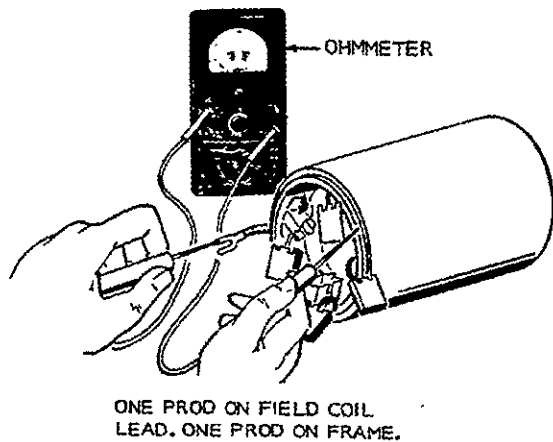

FIGURE 52. FIELD COIL GROUND TEST
**Testing Field Coils for Grounds:** Place one test prod on the connector and the other on a clean spot on the frame after unsoldering shunt field coil wire. If the ohmmeter indicates continuity, the fields are grounded either at the connector or in the windings, Figure 52.